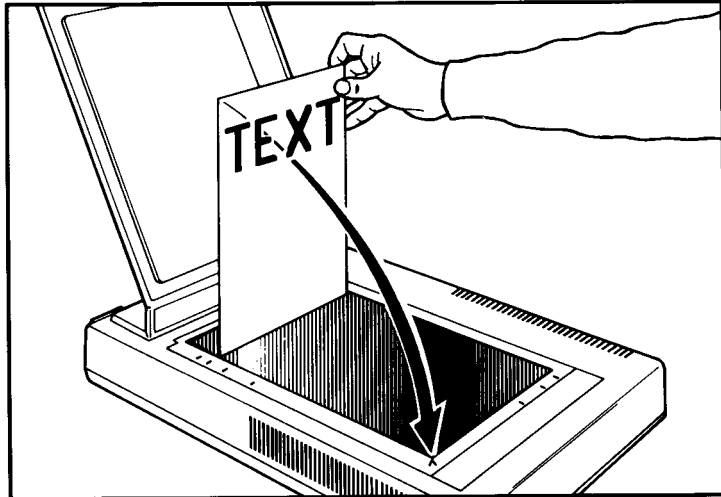

Figure 3-1. Setting Documents On the Glass
3. Place a document face down on the copyboard glass along the scale on your left. Make sure *the top* of the document faces down and is aligned with the document set mark >, as illustrated in Figure 3-1.